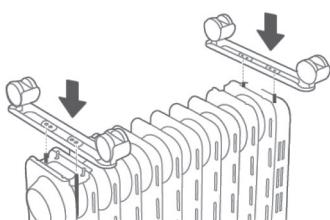

figure 1
2. As shown in figure 1, align the mounting holes of the one set of caster wheels and install it on the screw of the caster pad plate at the end of the radiator fin. Do the same with the other set of caster wheels.